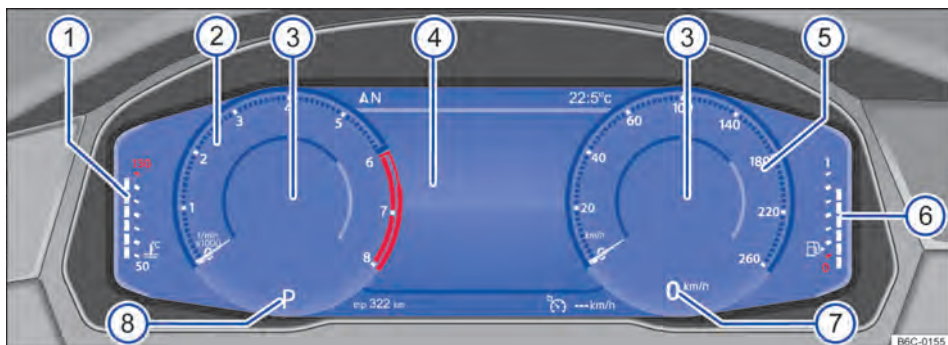

Fig. 10 Active Info Display (version 1) on the dash panel.
Explanations to the instruments → Fig. 10:
According to the radio version and the selected information profile, additional information is shown at the centre of the round instruments → Fig. 10 ③ of the Active Info Display.